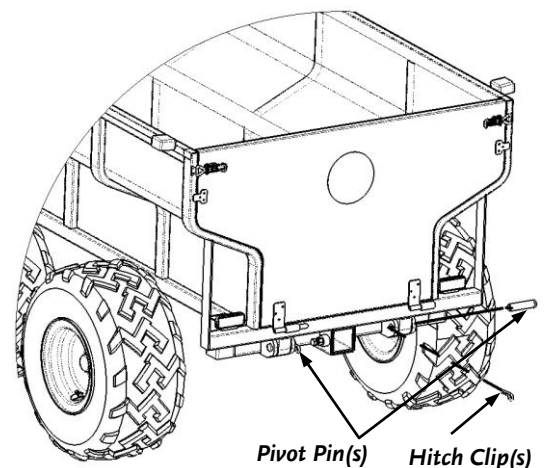

Figure 47
5. Align the Holes through the Dumping Pivots on the Bed with the ones on the Rear Bed Support and install the two Pivot Pins and Hitch Clips (**Figure 47**).